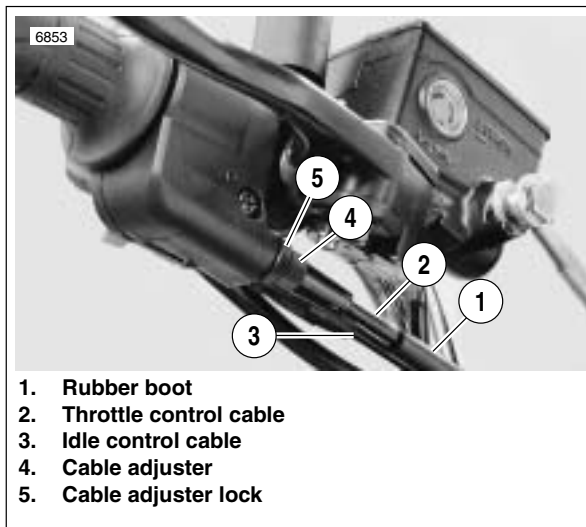

Figure 1-45. Throttle Control Cables
3. See Figure 1-45. Loosen cable adjuster lock (5) on each.
4. Turn adjusters (4) in direction which will shorten cable housings to minimum length.
6. Turn adjuster on throttle control cable (2) until throttle cam stop touches stop plate. Tighten cable adjuster lock on throttle control cable adjuster; release throttle control grip.
7. Turn handlebars fully to right. Turn adjuster on idle control cable (3) until end of cable housing just touches the cable guide.